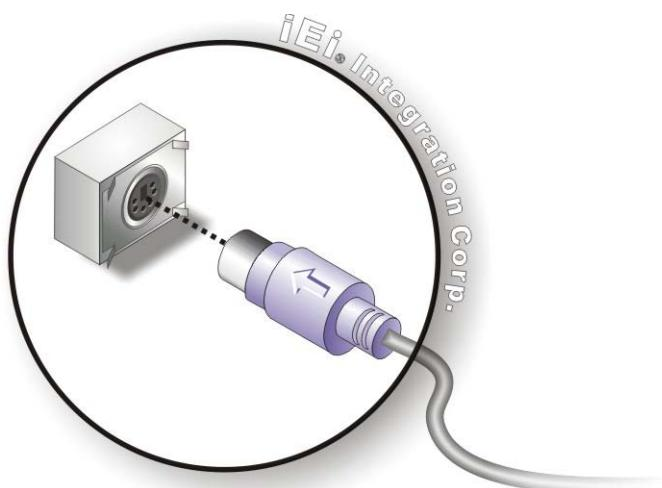

Figure 4-22: PS/2 Keyboard/Mouse Connector
Step 2: Insert the keyboard/mouse connector. Insert a PS/2 keyboard or mouse connector into the appropriate PS/2 connector on the external peripheral interface connector. See **Figure 4-22**.